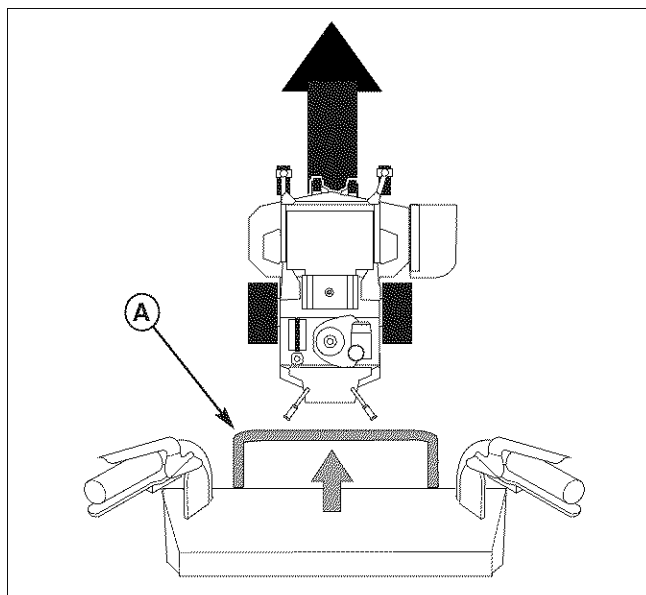

Figure 11. Forward Travel.
TO MOVE FORWARD AND SET FORWARD SPEED (See Figure 11.)
2. Gently move the forward speed control lever (A, Figure 11) forward until desired speed is achieved.